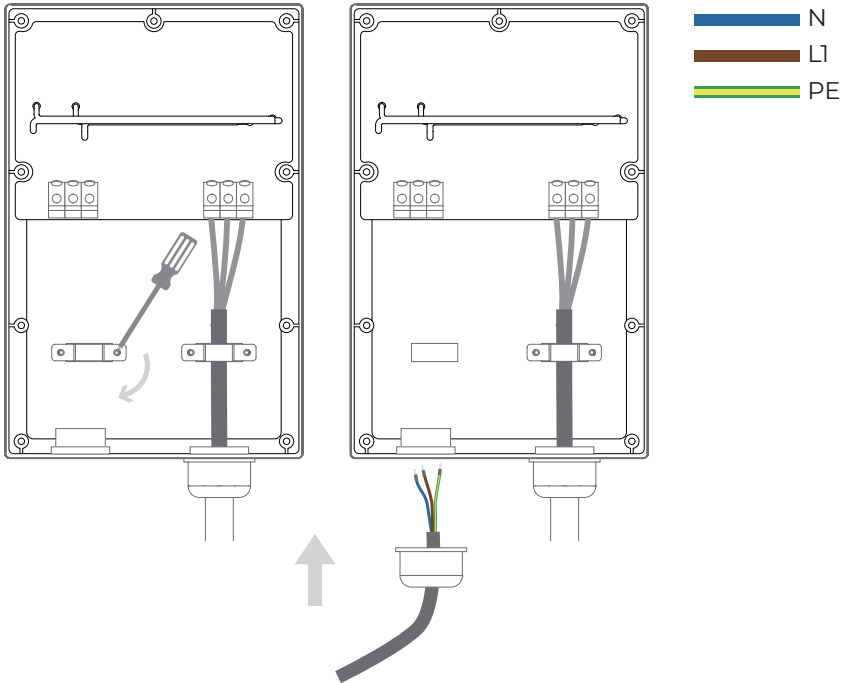

Fig. 5-6
5. Remove the wire holding plate on the left. Pass the crimped power cable through the gland, and then thread it through the bottom left hole. (See Fig. 5-6)